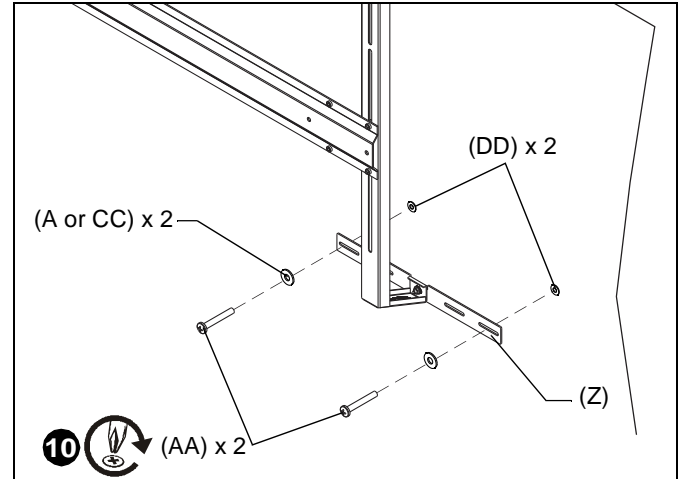

Figure 17
10. Use two 1/4-20 x 1 3/4" Phillips pan machine screws (AA) and two 1/4" flat washers (A or CC) to attach each lower wall bracket (Z) to anchors in wall. (See Figure 17)